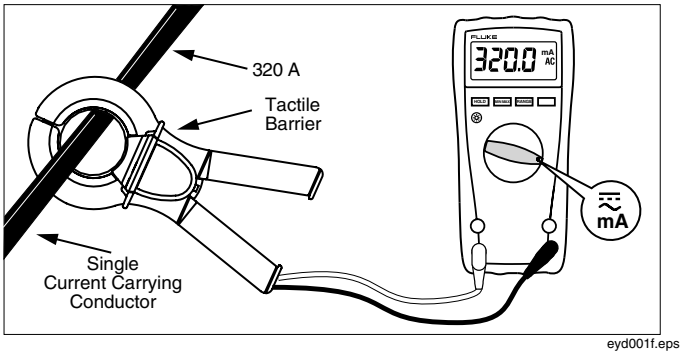

Figure 1. Current Measurement
- **Ensure that your fingers are behind the tactile barrier as shown in Figure 1.**
3. Clamp the probe around the current-carrying conductor to be measured (see Figure 1). Make sure the probe jaws are tightly closed around the conductor.
When the Clamp is connected to a compatible current meter and clamped around a single current-carrying conductor, the meter reading will be one 1000th of the actual current in the conductor. For example, a 5 A input current will be transformed into a 5 mA output current (see Figure 1). When measuring current in an ac line cord, the jaws should be clamped around only one conductor (the black or hot wire in a three wire cord). If the jaws are clamped around both current carrying conductors, the currents will cancel and produce a zero reading. If the probe is clamped around two wires carrying current in the same direction, the sum will be read. Reversing one of the wires causes the difference to be read.